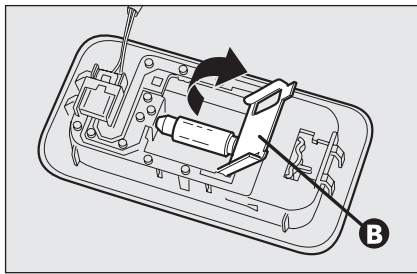

fig. 43
- open the protection cover **B-fig. 43** and replace the bulb releasing it from the side contacts making sure that the new bulb is correctly clamped between the contacts;